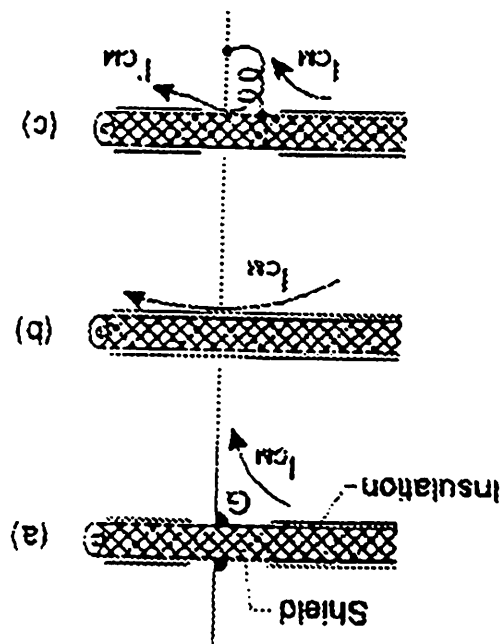

Figure 2 -- Cable shield bonding. Incorrect (a) and (b) Current (c)
- The use of shielded power cables also reduces the area of the loop antenna that is responsible for radiated interference. The shield should be connected to ground at both ends. It is important to ensure good electrical contact from the installation plate through the cable clamps screws to the metal cabinet of the VFD. Cable clamps should be used instead of twisted shield ends (pig tails, see Figure 2), since this ruins the shielding effect at high frequencies.